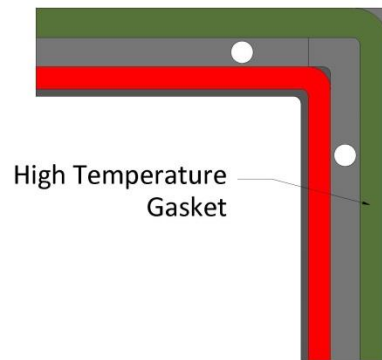

Figure 2
- c) Install the high temperature gasket by removing the paper backing, folding the gasket in half, and applying the gasket flush to the outer edge of the angle frame (Figure 2).